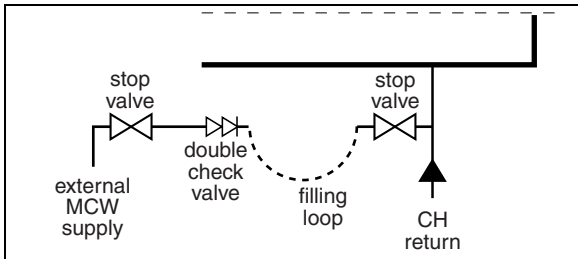

fig. 6 *Filling loop*
- Connect filling loop (accessory) (fig. 6).
- Open both stop valves (fig. 6).